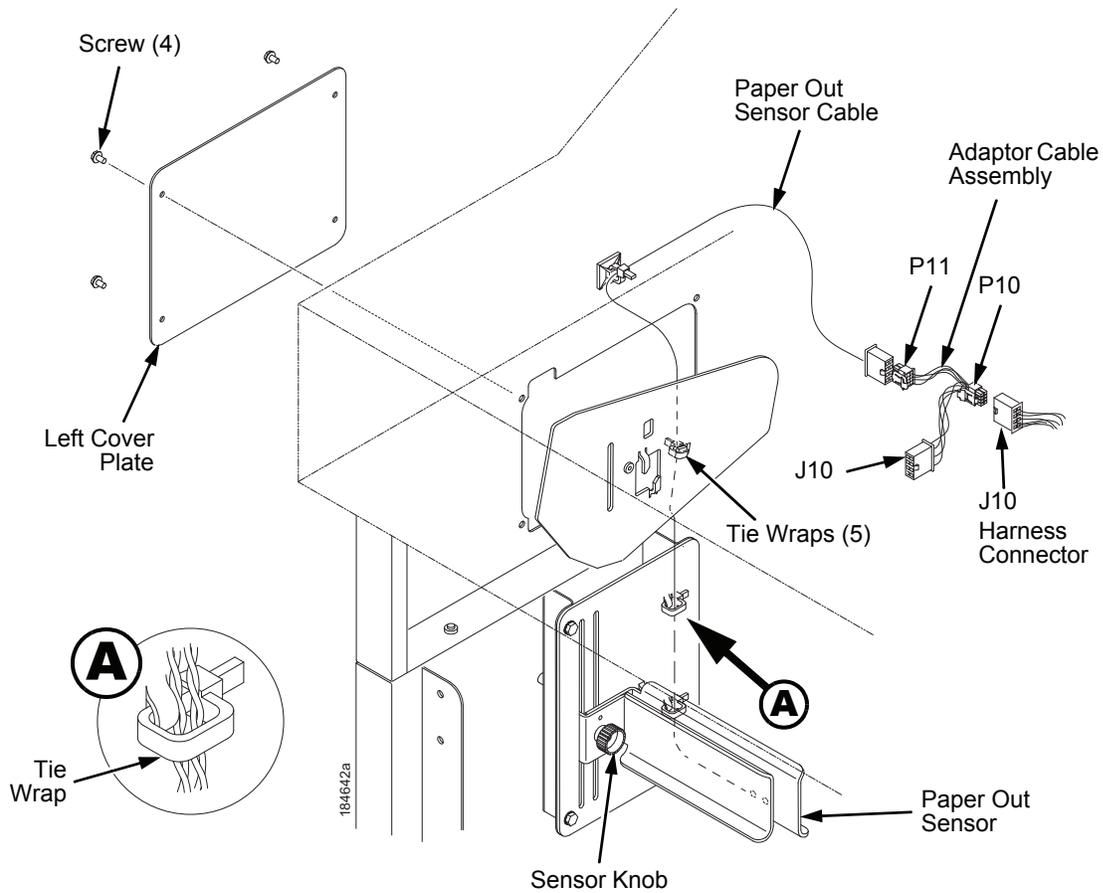

Figure 11. Replacing the Paper Out Sensor Assembly
2. Remove the screw and left cover plate. (See Figure 11.)
(See Figure 11 on page 450.)
NOTE: Be sure that the tie wrap loops around the cable, towards the back of the printer as shown in Figure 11, detail B on page 450.